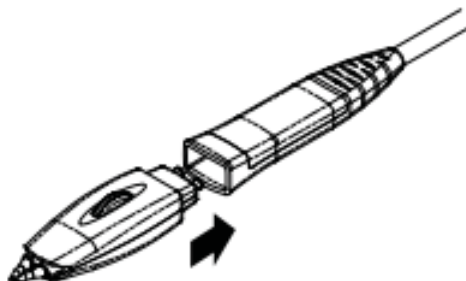

Figure 7 To Connect the Probe Head to the Preamp of the Active Probe
1. Connect the probe head to the preamp of the active probe, as shown in Figure 7.